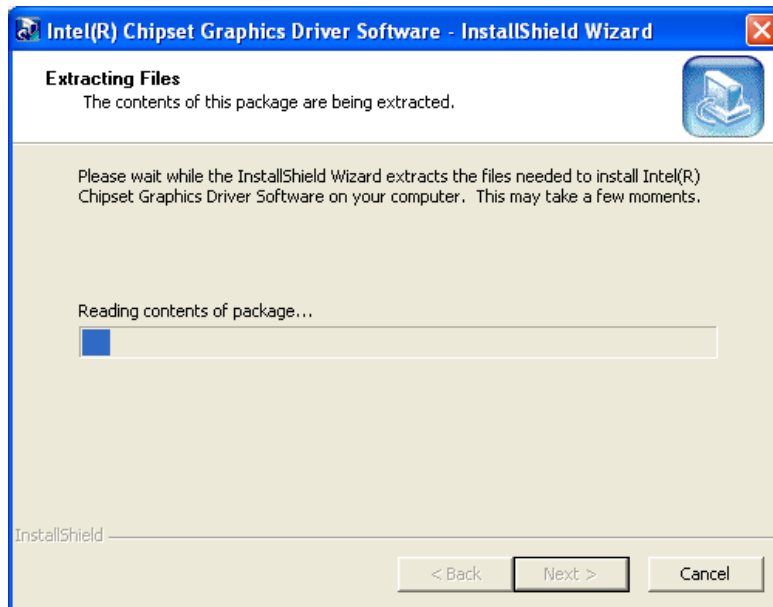

Figure 5-9: Graphics Driver Setup Files Extracted
Step 6: The installation files are extracted. See Figure 5-9.